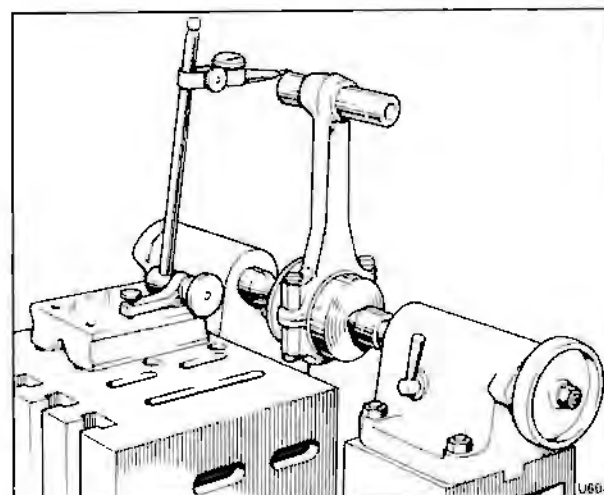

Fig. E6-3 Checking the connecting rod alignment
3. Mount the connecting rod on an inspection surface table as shown in figure E6-3.